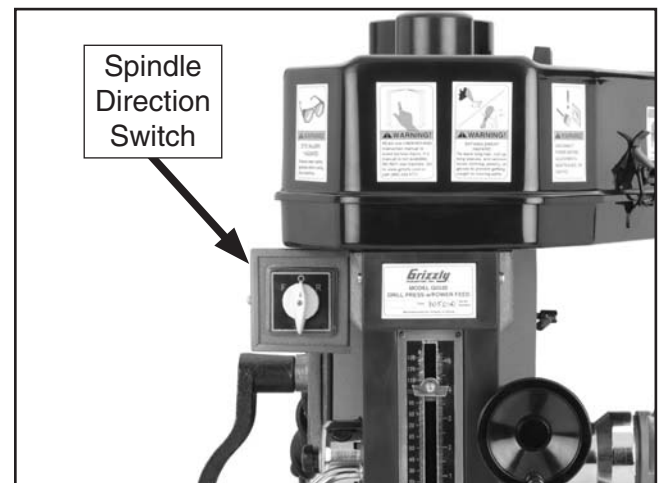

Figure 13. Spindle direction switch.
4. Move the spindle direction switch left or right to turn the machine **ON** (see **Figure 13**).